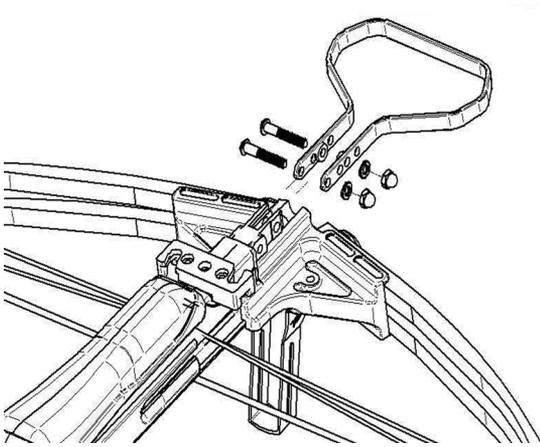

Fig. 6
- Attach lock washer and acorn nut. Tighten with 5/32" hex key. Make sure not to overtighten the bolt as this may cause damage to the riser. **See Figure 6**